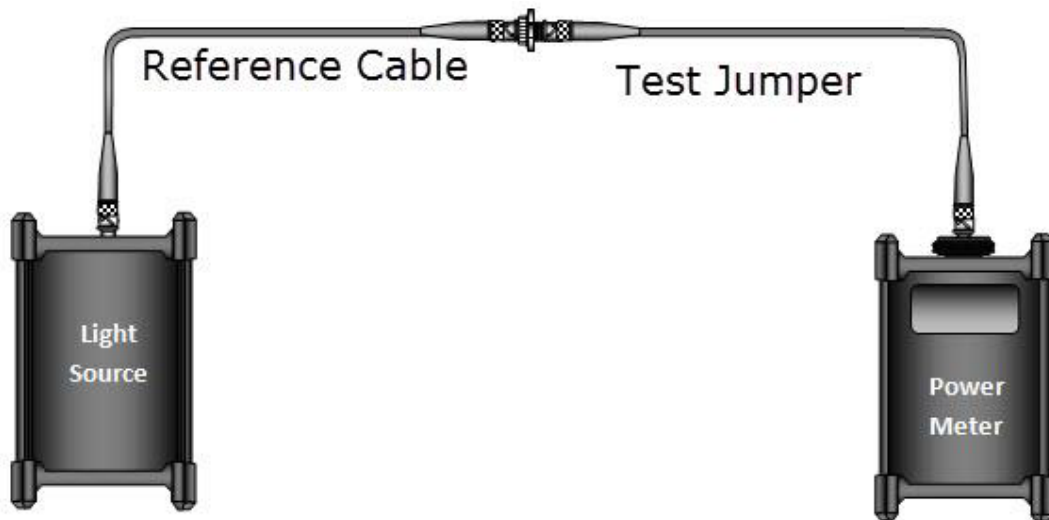

FIGURE A-2 - TEST MEASUREMENT (P2)
- v. RECORD THE OPTICAL POWER AS P₂ (SEE FIGURE A-2)